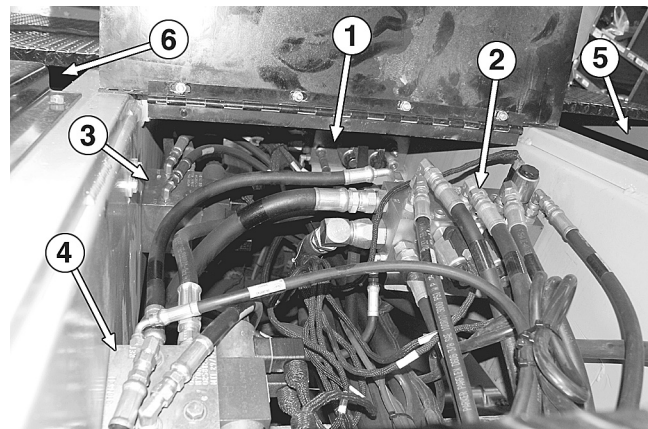
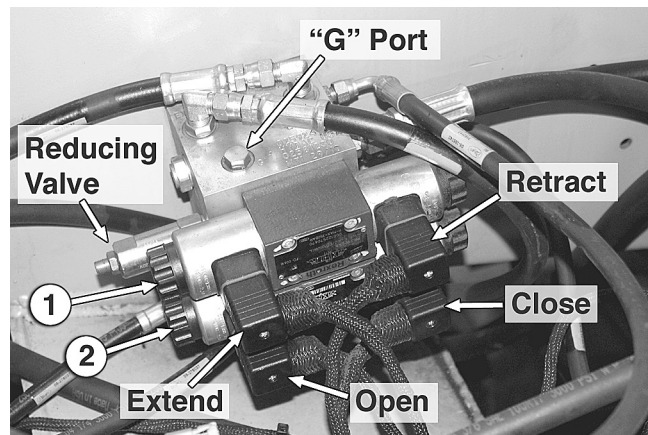

Figure 28.
Figure 29. Hopper/Gate Manifold
1) Install 2000 psi gage in “G” port of hopper manifold (Fig 29) located between the conveyors (Fig 28). This port is SAE 04 MB and requires a 3/16 allen wrench to remove the plug.
3) To adjust pressure, use 3/4” box wrench to loosen jam nut on set screw located on the reducing valve (Fig 29) mounted between the conveyors (Fig 28). If pressure is low, turn set screw clockwise. If pressure is high, turn set screw counterclockwise. Retighten jam nut.
4) Repeat above procedure for the right gate reducing valve (Figs 28 & 29).